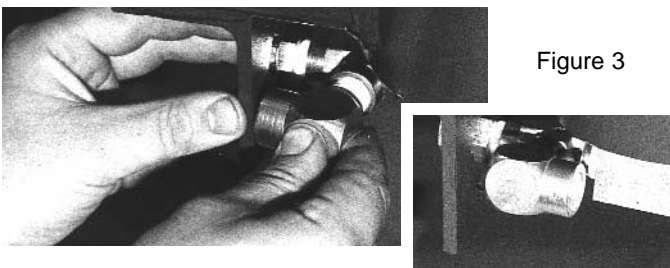

Figure 3
3. Attach 90 degree elbow to street tee connector (see Figure 3) and tighten securely until female coupler is positioned as shown in Figure 3 inset.